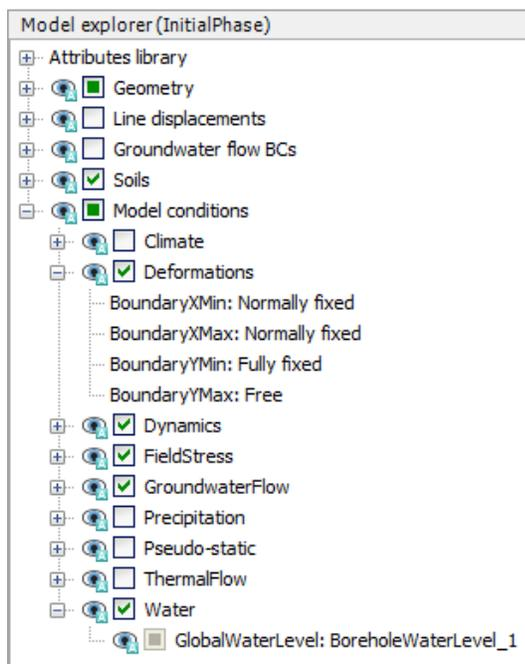

Figure 14: Model explorer showing model conditions and Deformations
4. In the **Model explorer** expand the **Model conditions** subtree as shown in Figure 14 (on page 24).